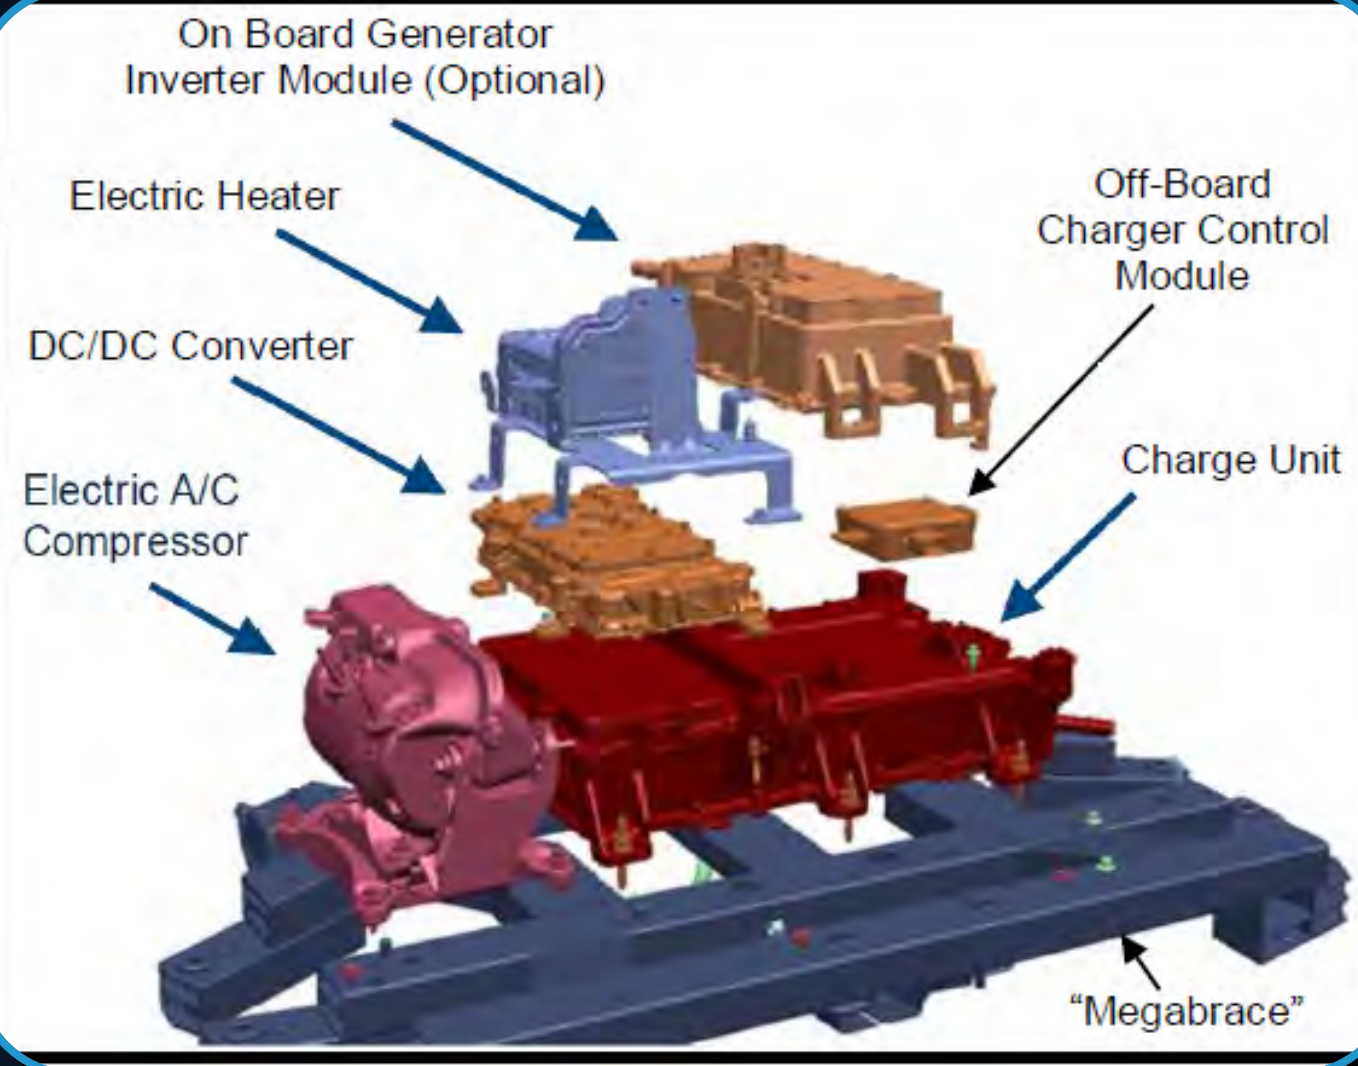

Figure 9
- Figures 9, 10 and 11 are shown in the next slide for identification of the components described.